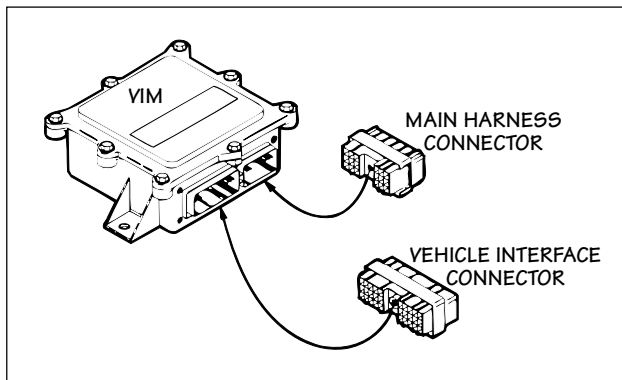
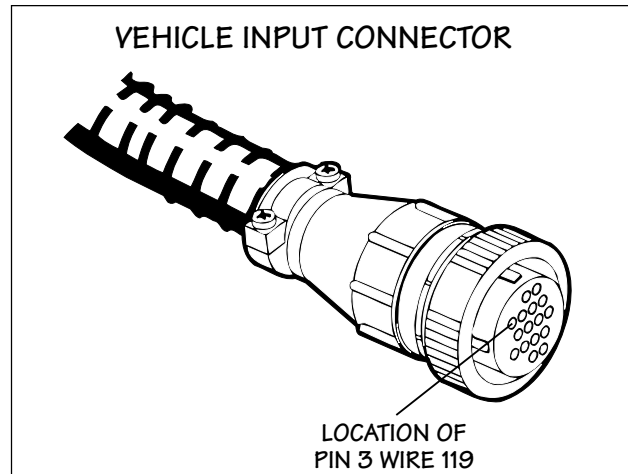
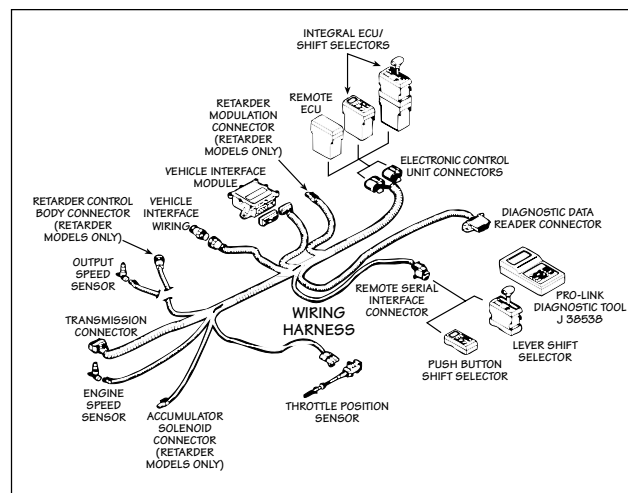

FIG. 5
FIG. 3
FIG. 4
4. Locate the Vehicle Interface Module (VIM). The VIM is typically located near the ECU. Refer to Fig. 4 (page 4) for location of the VIM. The Vehicle Interface Connector is a rectangular, 30-pin connector located at the bottom left-hand corner of the VIM. Refer to Fig. 5 for the Vehicle Interface Connector location.
- Locate the Vehicle Input Connector. The Allison Vehicle Input Connector is illustrated in Fig. 3. Refer to Fig. 4 for location of the Vehicle Input Connector.